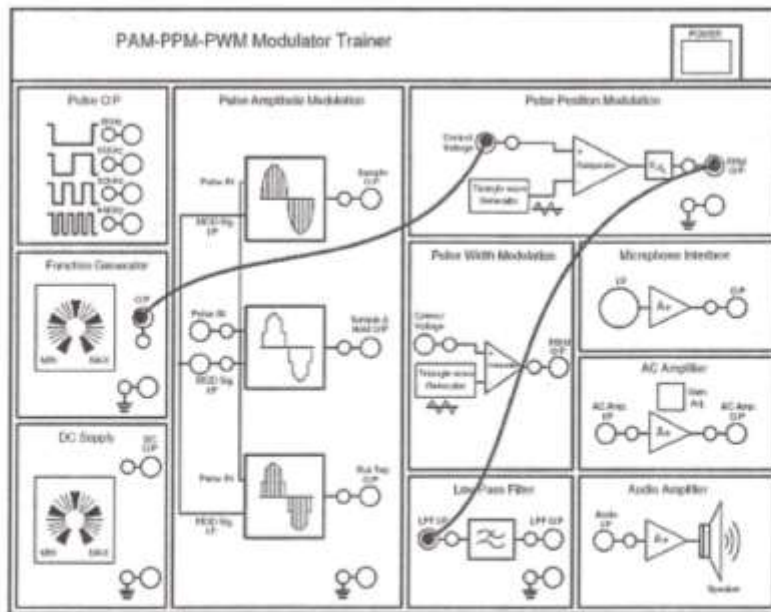

Fig. 21
1. Connect the circuit as shown in Fig 21.